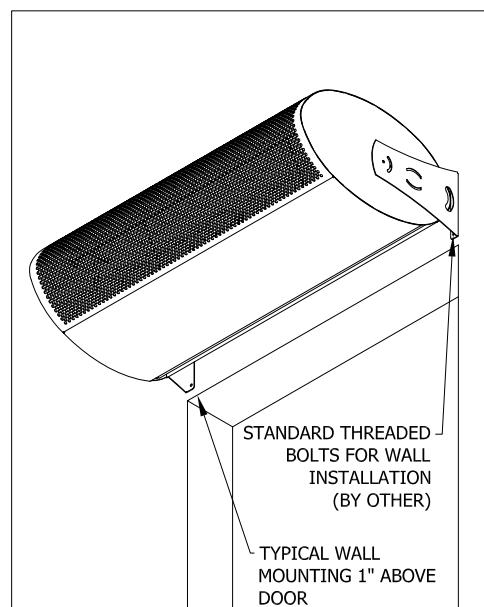

FIG. 1
5. Mount the product such that the discharge is 1" above the opening and all obstacles. (FIG. 1)
6. Use four (4) threaded rods for overhead installation or four (6) threaded bolts for wall installation. All hardware is field provided by others. (FIG. 1)